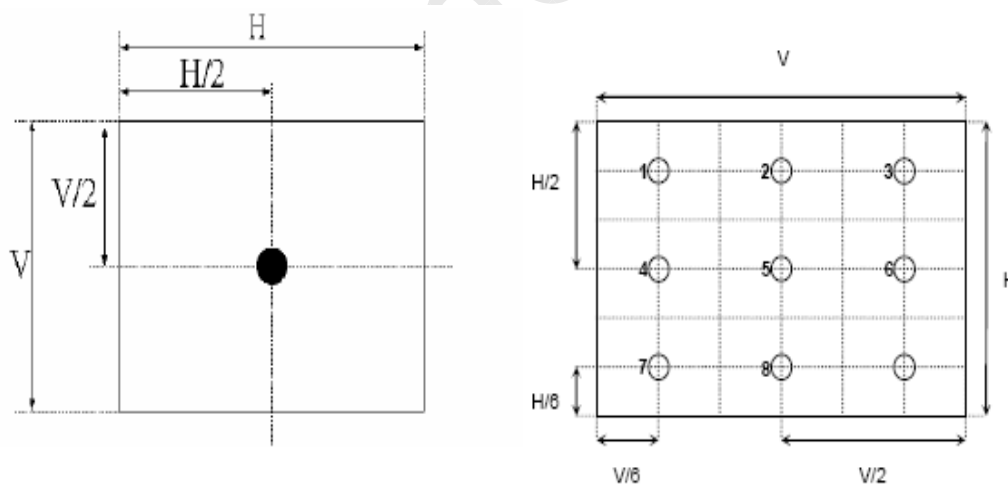

FIG. 2 Luminance measurement positions
1. Contrast ratio will be measured in the center of panel (point 5 in Figure 2), Contrast Ratio (CR) is defined mathematically as:
2. Surface luminance is luminance value at point 5 across the LCD surface 50cm from the surface with all pixels displaying white. From more information see FIG 2. When $V_{\text{DDB}} = 24\text{V}$, $I_{\text{DDB}} = 6.04\text{A}$. $L_{\text{WH}} = L_{\text{O5}}$. Where L_{on5} is the luminance with all pixels displaying white at center 5 location.